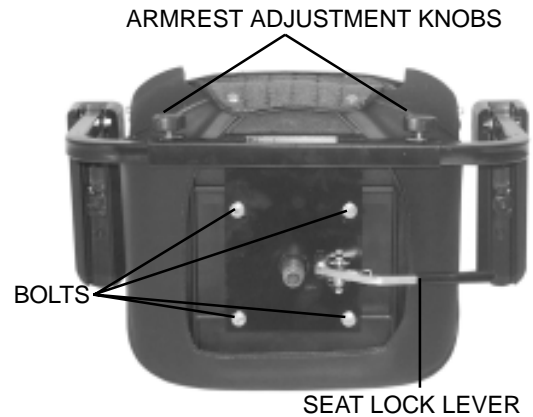

FIGURE 10. SEAT ADJUSTMENTS
1. Pull up on the seat lock lever to unlock the seat. See figure 10.
You can reposition the scooter's seat forward or rearward to one of three settings thereby adjusting the distance between the seat and the tiller. See figure 10.
2. Remove the four bolts that fasten the seat to the seat platform. See figure 10.
1. Loosen the armrest adjustment knobs at the back of the seat frame. See figure 10.